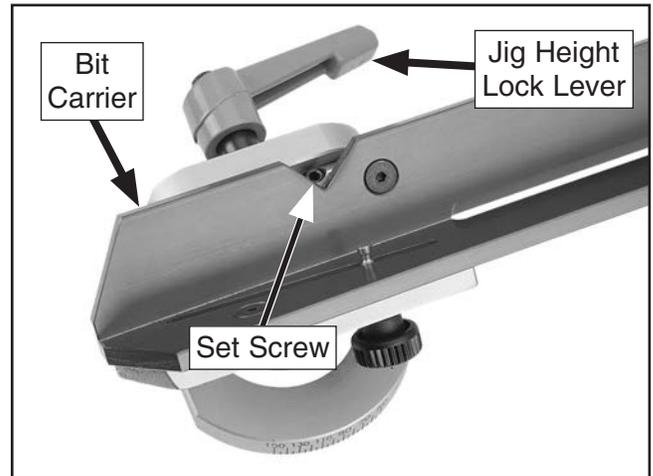

Figure 9. Jig set screw and height lock lever.
3. Fully unthread the jig set screw shown in **Figure 9**, raise the bit carrier up from the jig base, then tighten the height lock lever to hold the bit carrier in place.
- Loosen the jig height lock lever, thread the jig set screw back into the pivot base, then tighten the lock lever again to hold the assembly in place (see **Figure 9**).